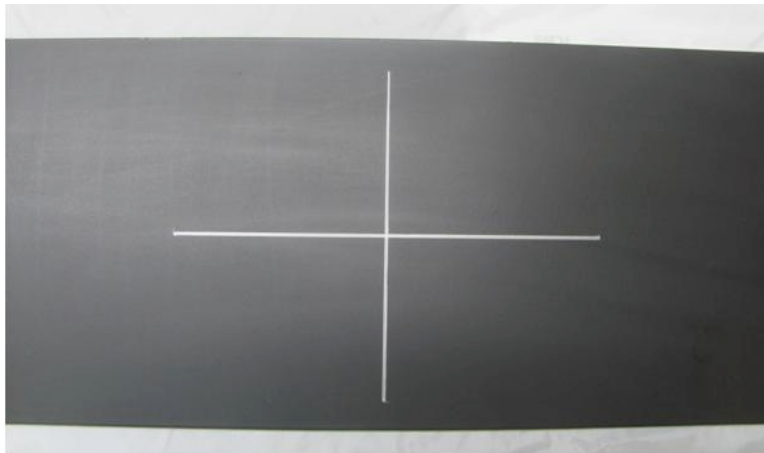

Figure 8: Marking Structural Member for Tiltmeter Installation
2. Locate the centerline of the gaging area in both the longitudinal and transverse directions. First, locate the midpoint and draw two centerlines as shown in Figure 8. The longitudinal centerline should be approximately 8 in (203 mm) long and the transverse centerline should be approximately 6 in (152 mm) long. This will allow the marks to be seen while the tiltmeter is being installed.